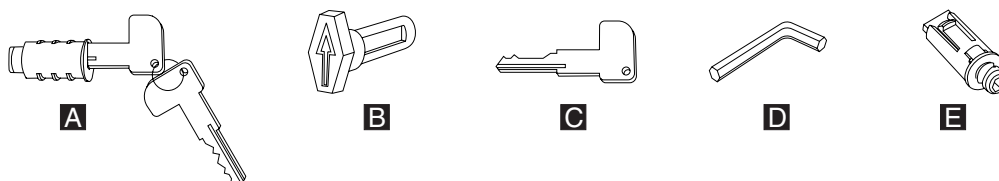

Figure 97. Lock accessories
1. The lock insert fits all the way into the lock cylinder only when the slot in the bottom of the cylinder and the lug on the end of the insert are aligned. If necessary, insert the aligner tool (see Figure 97) into the lock cylinder and rotate it until you feel it engage the slot at the bottom of the cylinder; then turn the aligner tool until the arrow points up.
1. Insert the blank lock-insert handle into the blank keylock cylinder (see Figure 97).